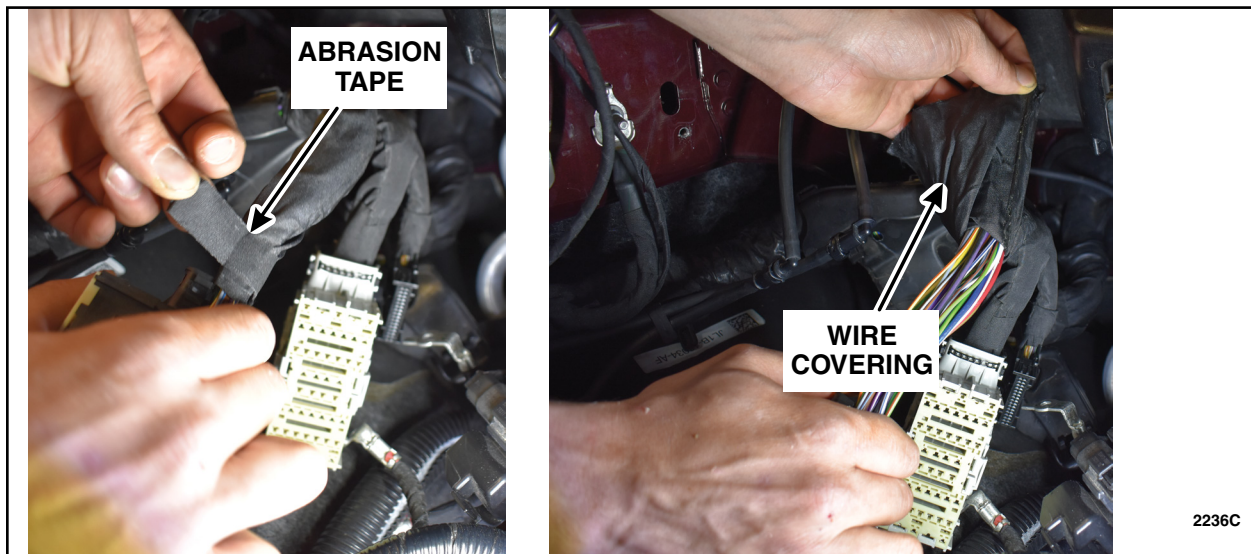

FIGURE 16
18. Remove abrasion tape from the harness and peel back the covering about 300mm. See Figure 16.